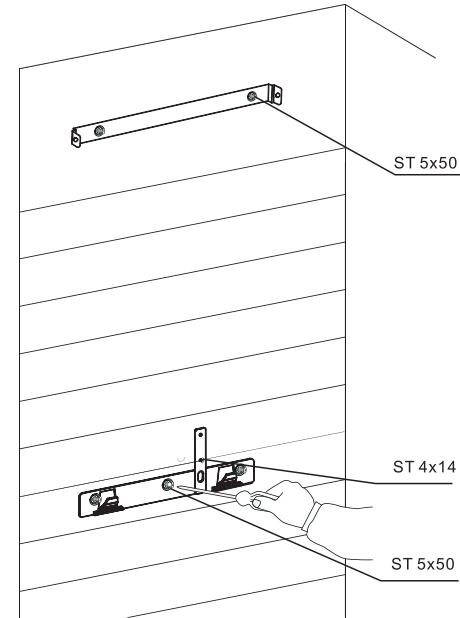

Fig.7
- Install the flue cover mounting and wall brackets with screws to the wall as marked (Fig.7).